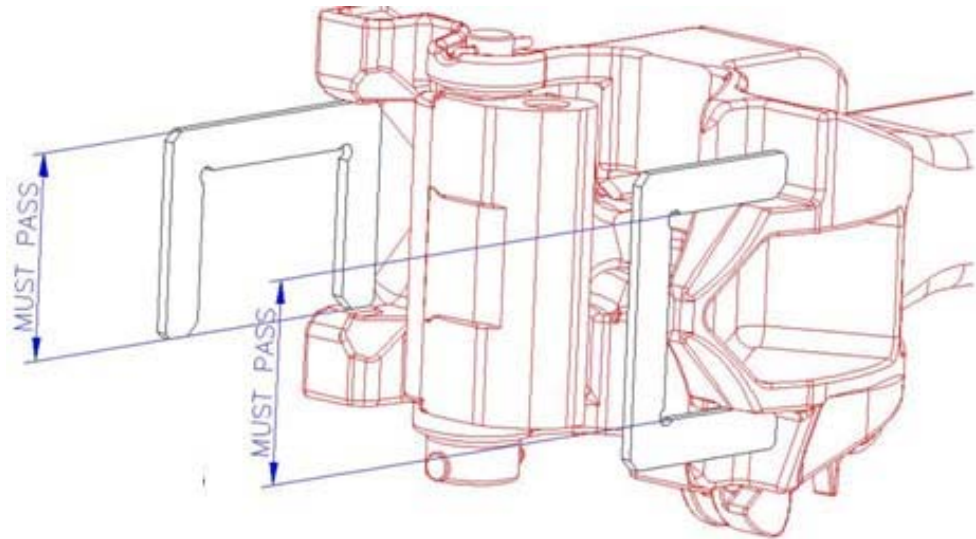

Figure: 5.10 Vertical Height Aligning Wing Pocket and Guard Arm Gauge
5.6.3 Repairs – (please refer to fig 5.10)